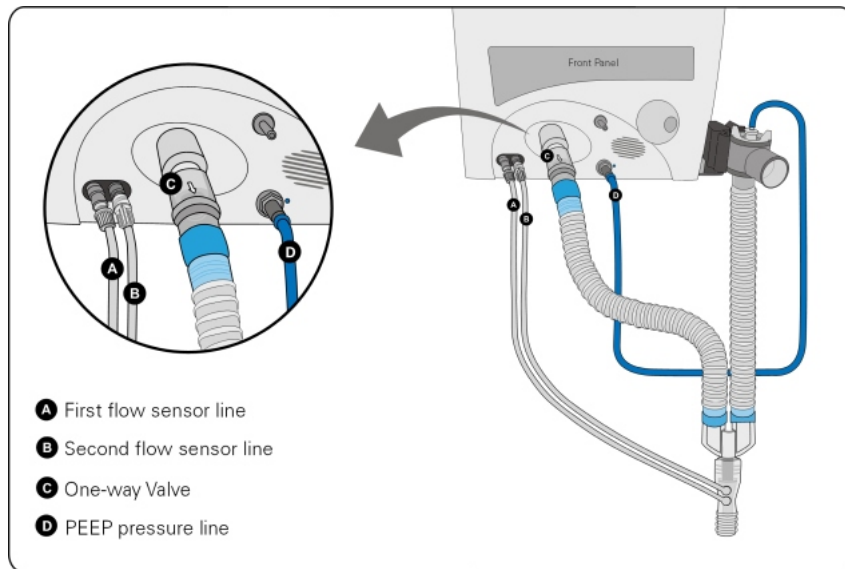

Figure 183: Tubing Connectors on the iVent™201
2. Insert the Captive screw (item no.2) into the screw-hole on the adaptor side, and screw it in with a flat screwdriver (See Figure 183).
2. Connect the assembled PEEP pressure line by securing the luer lock fitting to the Exhalation valve luer inlet, which is marked with a blue dot on the front panel of the ventilator (see Figure 183, item D).
3. Secure the multi-use One-way valve to the ventilator patient outlet (see Figure 183, item C)
6. Secure the flow sensor to the patient wye and connect the 2 sensor lines to the ventilator sensor line luer inlets (see Figure 183, item A and B).